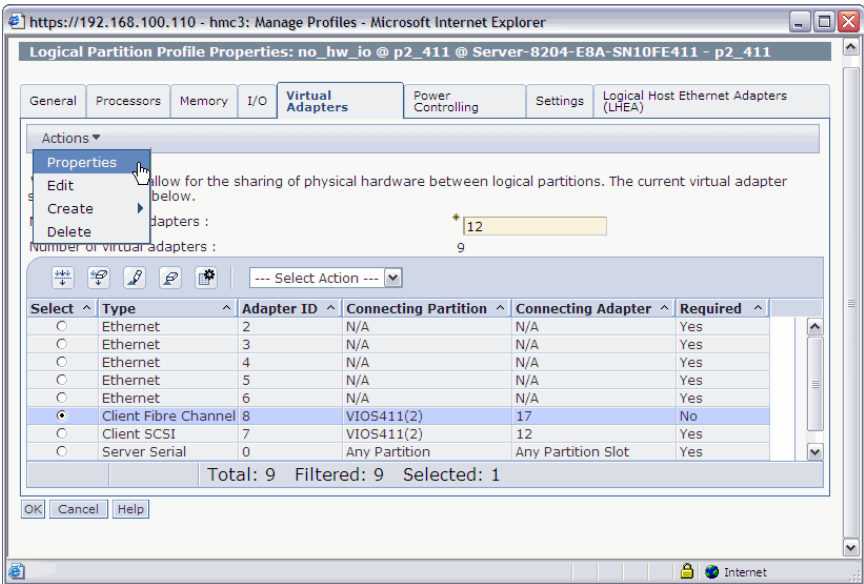

Figure 5-21 Adapter properties
- d. Once you have clicked **OK** on the above panel, reselect the **Virtual Adapters** tab and select the newly created client Fibre Channel adapter. Use the **Actions** → **Properties** selection in the drop-down box (Figure 5-21) to display the WWPNs of the client Fibre Channel adapter.